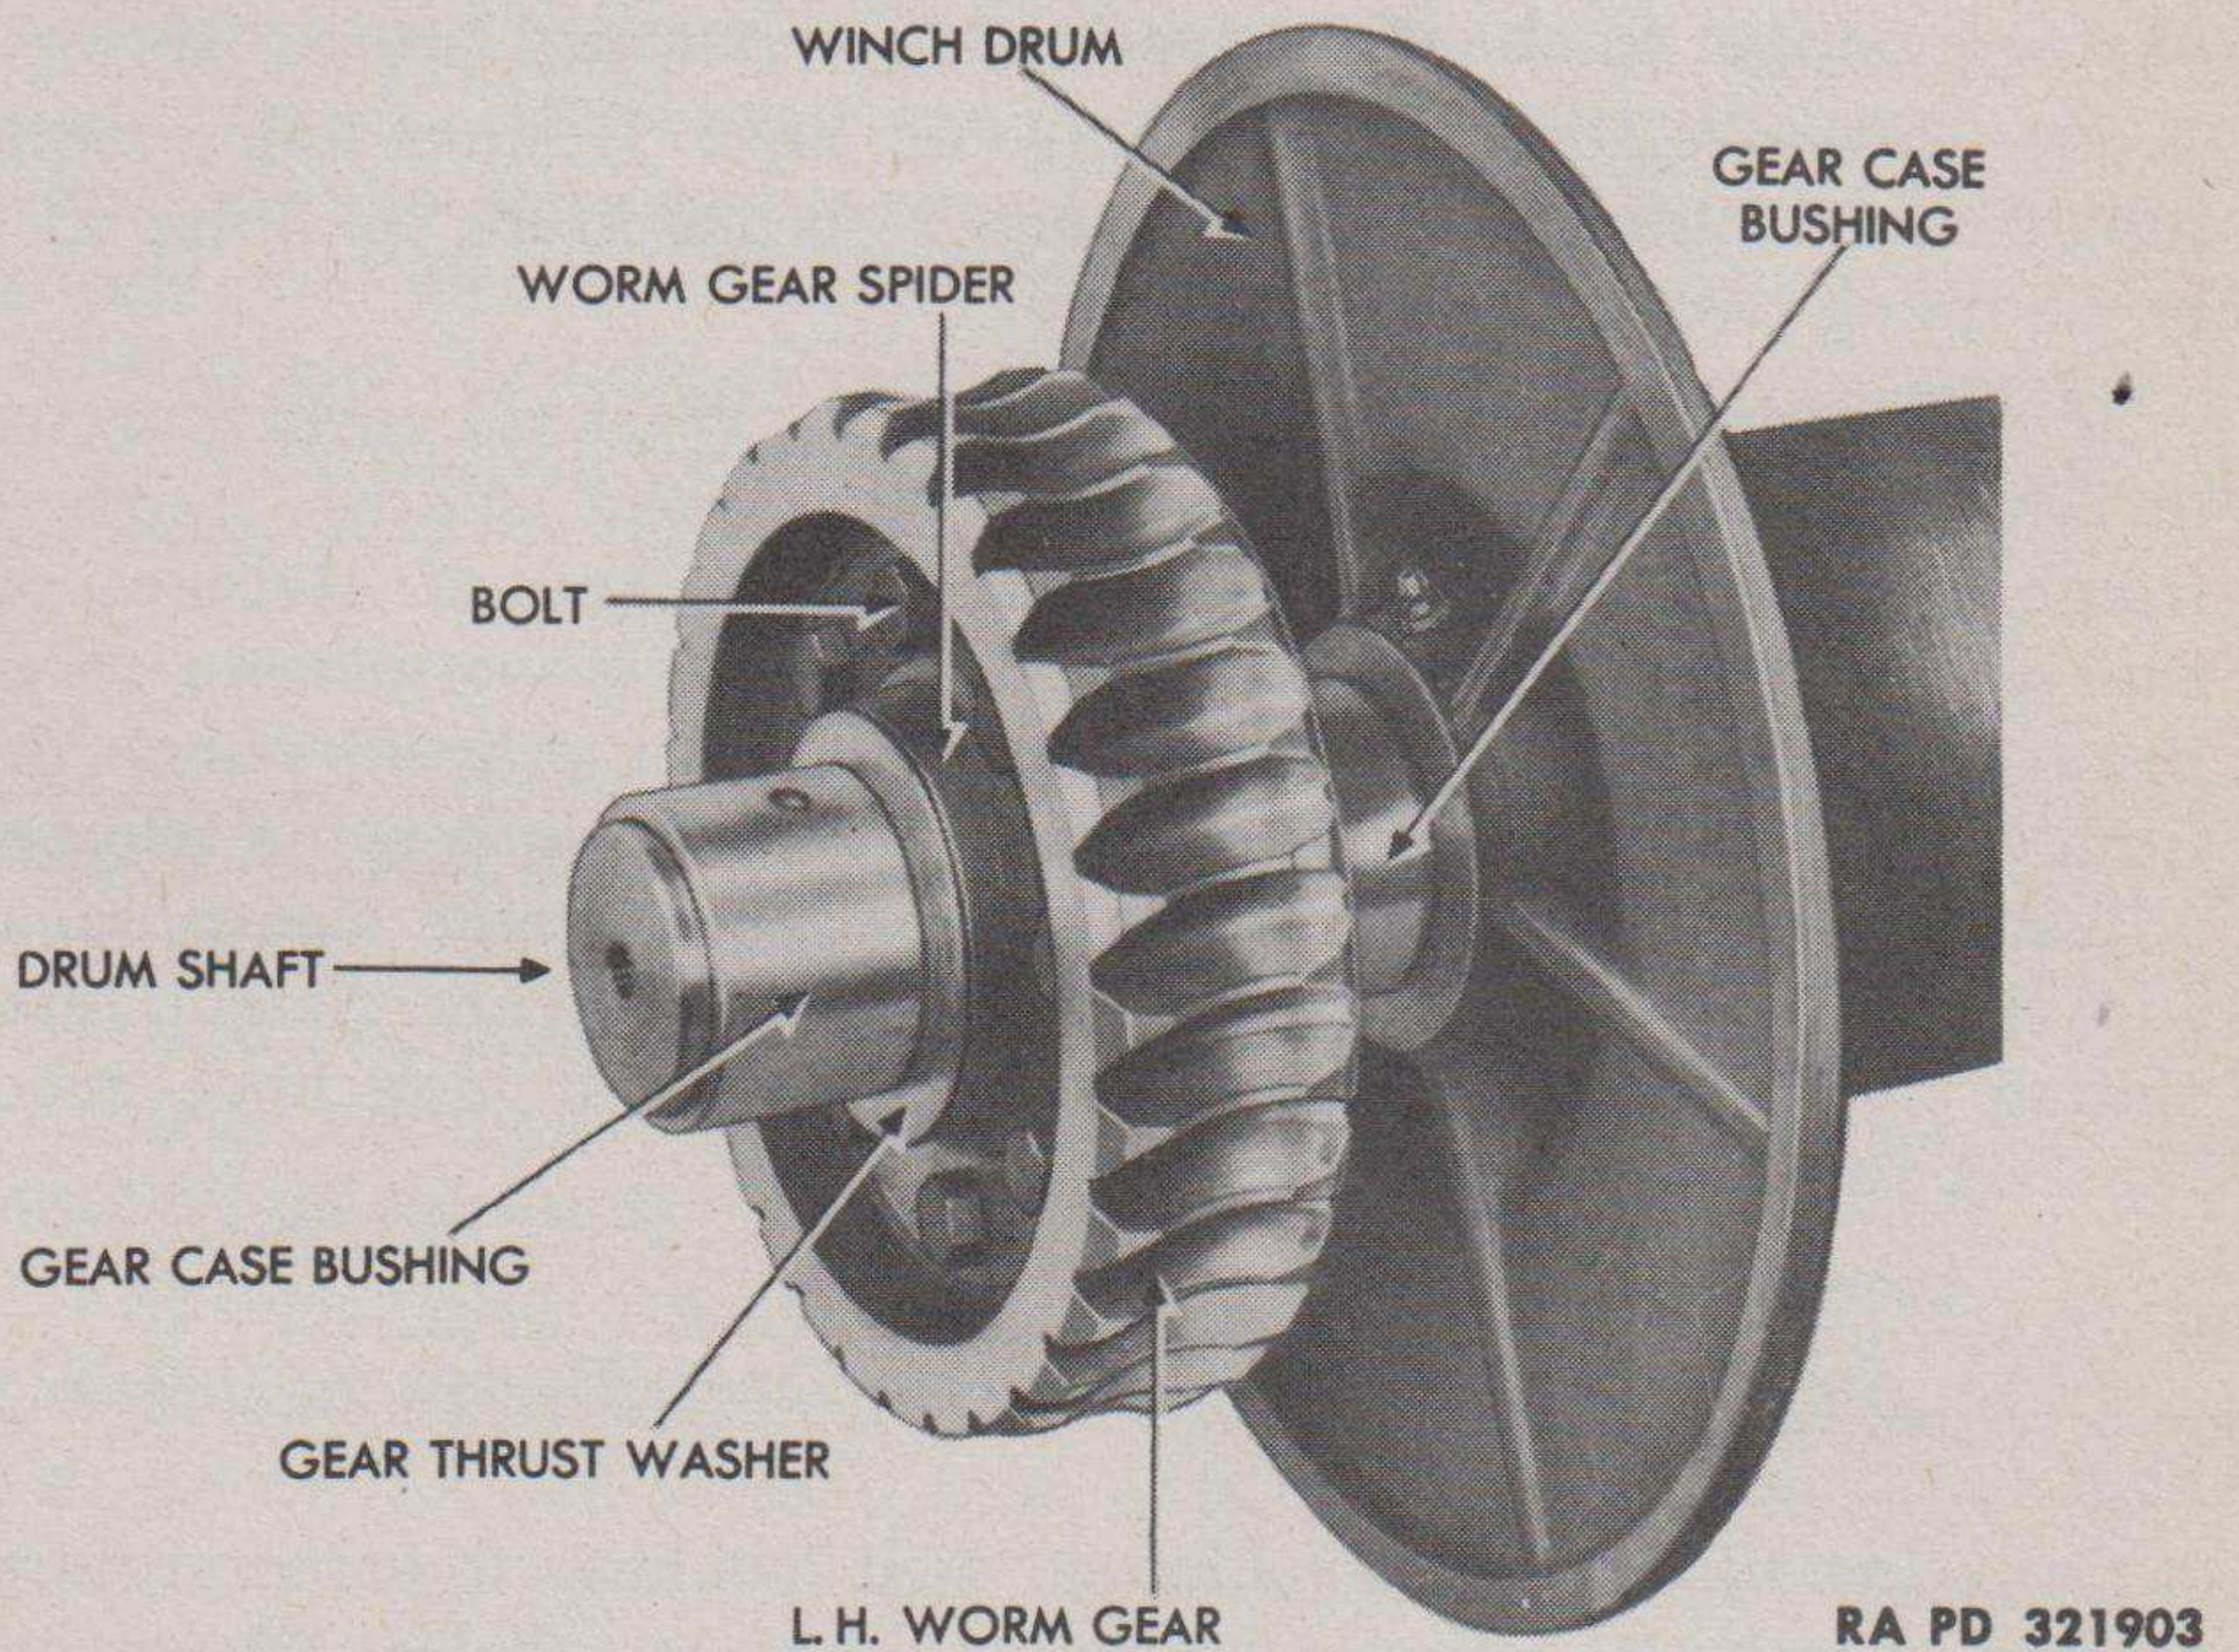

Figure 87 — Left-hand Worm and Drum Assembly — Gear Case Removed
- e. **Remove Drum, Drum Shaft, and Left-hand Worm Assembly.** Remove cap screw and lock washer from worm end of drum shaft. Lift off drum shaft washer and shims. Remove cap screws and lock washers attaching gear case cover to gear case. Lift off cover and cover gasket. Lift worm end of drum shaft out of gear case (fig. 87). Slide outer gear case bushing and gear thrust washer off end of shaft.